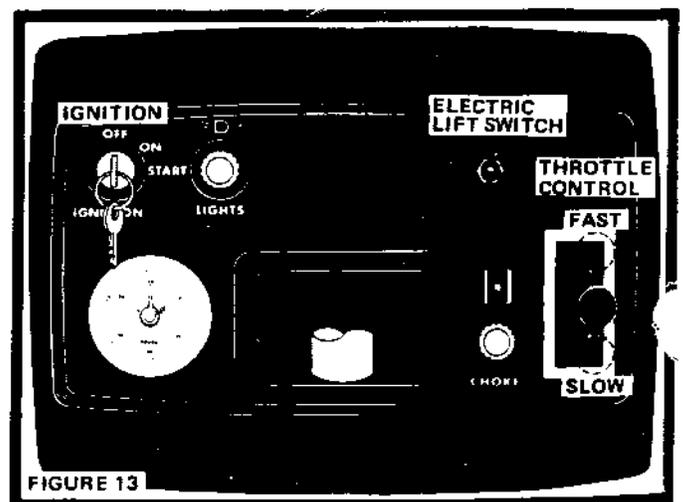

FIGURE 13
6. Move Throttle Control Lever to middle position (Fig. 13).
7. Pull Choke out (Fig. 13).
8. Turn Ignition Key to "START" position until Engine starts (Fig. 13). Release key into "ON" position.
NOTE: The Electric Lift Switch (Fig. 13) raises or lowers an attachment when used with a Three Point Hitch (optional equipment).